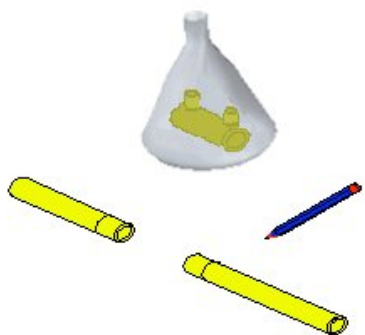

Figure D7 – Marking Area to be Scraped
14. Repeat for second pipe to be joined. Figures D7 & D8.